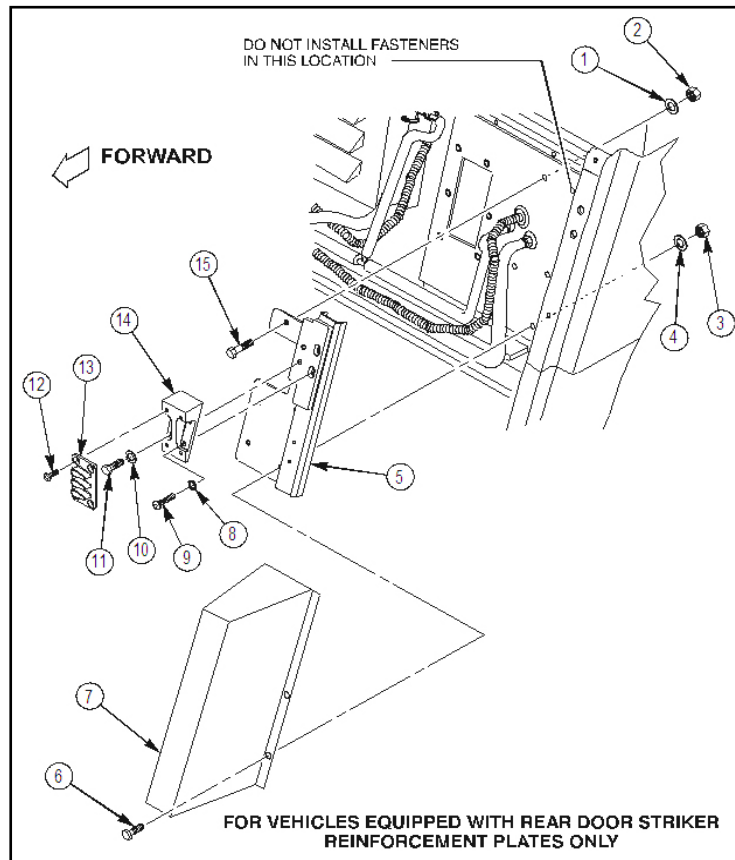

Figure 24.
- a. Install 6435680-01M1 left door guide support weldment (5) with one 4397000-036 capscrew (15), 4397005-013 washer (1), and 4397064-003 locknut (2) as shown in figure 24. Do not tighten capscrew (15) at this time.
b. Install four 4397000-034 capscrews (6), 4397005-013 washers (4), 4397064-003 locknuts (3), and rear air conditioning lines cover (7) as shown in figure 24. Tighten capscrews (6 and 15) to 21 lb-ft (28.5 N·m).
c. Install 6435491-01M1 left C-pillar door guide mount (14) with two 4397018-096 screws (9), 4397004-006 lockwashers (8), 4397000-032 capscrews (11), and 4397004-007 lockwashers (10) as shown in figure 24. Tighten screws (9) to 10 lb-ft (13.6 N·m) and capscrews (11) to 21 lb-ft (28.5 N·m).
d. Apply 8030-01-025-1692 sealing compound to threads of four 4397031-089 flat socket head screws (12). Refer to figure 24.
e. Install 6437133-01M1 male door guide (13) with four 4397031-089 flat socket head screws (12) as shown in figure 24. Tighten screws (12) to 10 lb-ft (13.6 N·m).